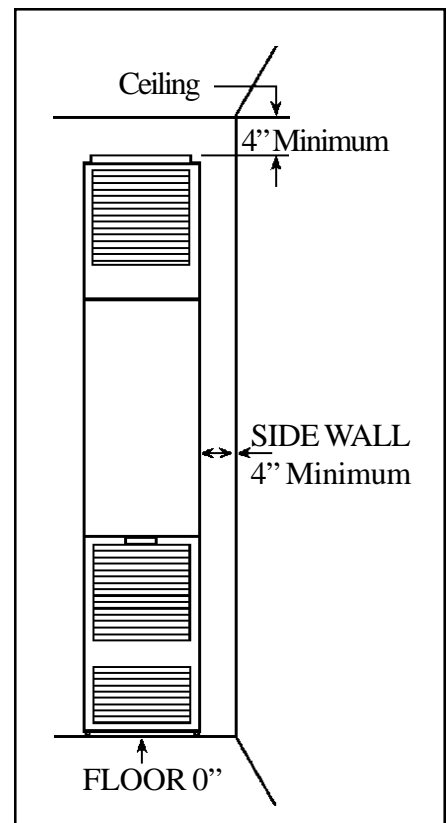

FIGURE 1
14. When installing the furnace allow adequate accessibility clearances for servicing and proper operation. (See Figure 1 – Page 5).
1. The minimum clearance to a side wall is 4". (See Fig. 1). NOTE: The unit may be recessed and rest directly against side studs and the inside surface of the rear wall.
2. The minimum clearance to the ceiling is 4". (See Figure 1).
3. The minimum clearance to the floor is 0". (See Figure 1).